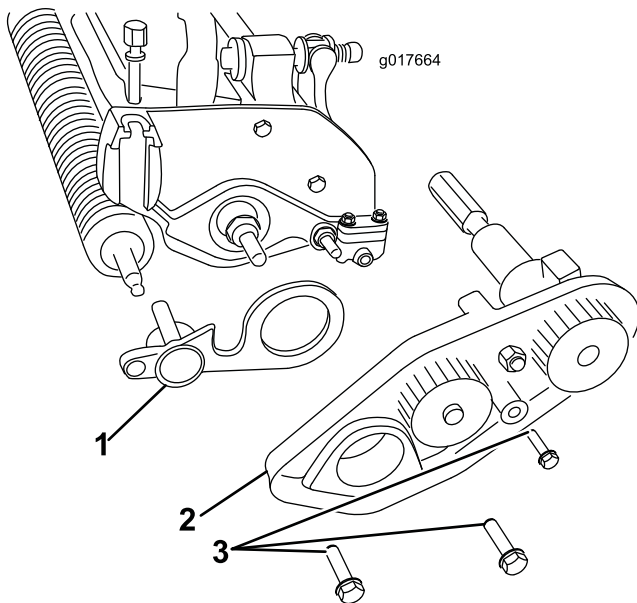

Figure 5
10. Remove the 3 bolts securing the belt drive assembly to the cutting unit and remove the whole assembly (Figure 5).
21. Insert other end of the groomer shaft into the left support plate (Figure 5).
22. Install the reel belt-drive assembly using the previously removed bolts and ensure that the side plate rotates freely (Figure 5).